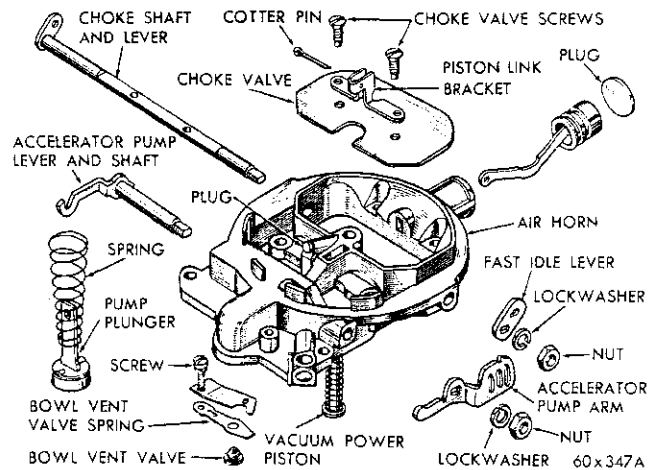

Fig. 20—Air Horn (Disassembled)
b. Air Horn Assembly (Fig. 20)
(1) Slide the choke shaft and lever into the air horn with the choke lever pointing down and away from the air horn. Slide the choke valve down into the slot in the shaft.
(2) Hold the choke valve closed, then position the choke piston bracket and install new screws. **DO NOT TIGHTEN.** While holding the valve in the closed position, tap gently with a screwdriver, to center and locate the valve.
(3) Tighten attaching screws securely, then stake by squeezing with pliers. Reinstall the fast idle lever and secure with lockwasher and nut.
(4) Soak the accelerator pump plunger in a jar of clean gasoline. Test the leather. If the leather is hard, cracked, or worn, install a new pump plunger. (Be sure and flex the leather several times before installing plunger in air horn.)